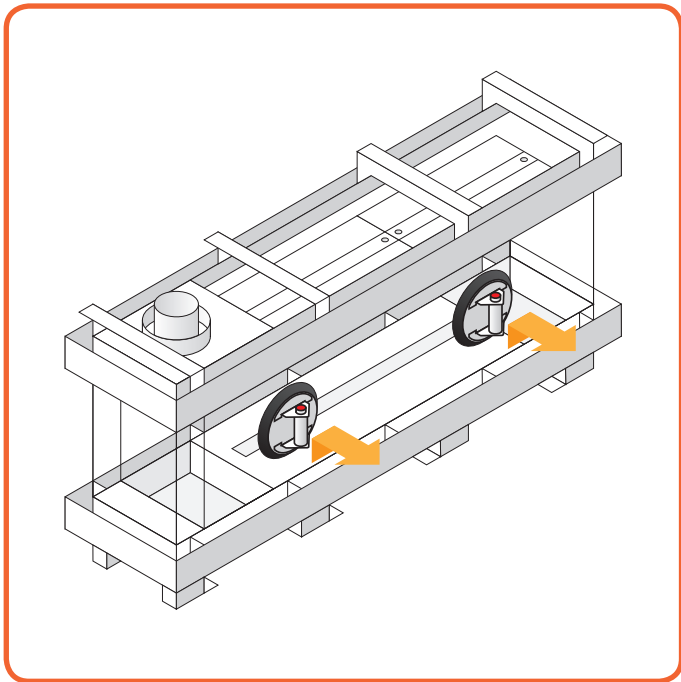

Figure 10.18 -
- Lift the window a little and tilt it out of the fireplace through the opening. (**Figures 10.18 & 10.19**)